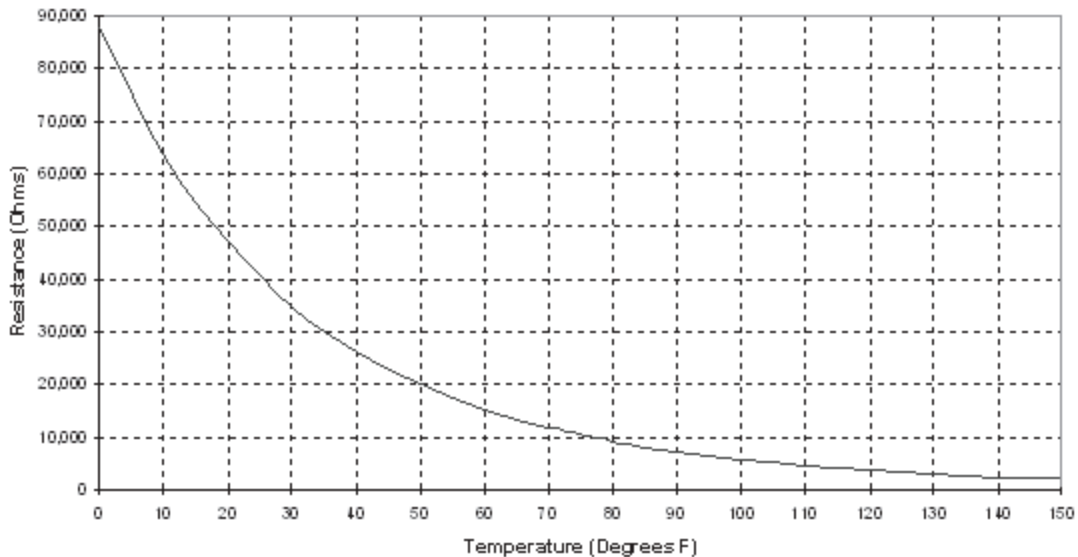

Figure 26. Resistance temperature curve for the zone sensor, entering water temperature sensor, and discharge air sensor.
1. The zone sensor, entering water temperature sensor, and the discharge air temperature sensor are 10KW thermistors. Figure 26 on page 38 provides the resistance-temperature curve for these thermistors.